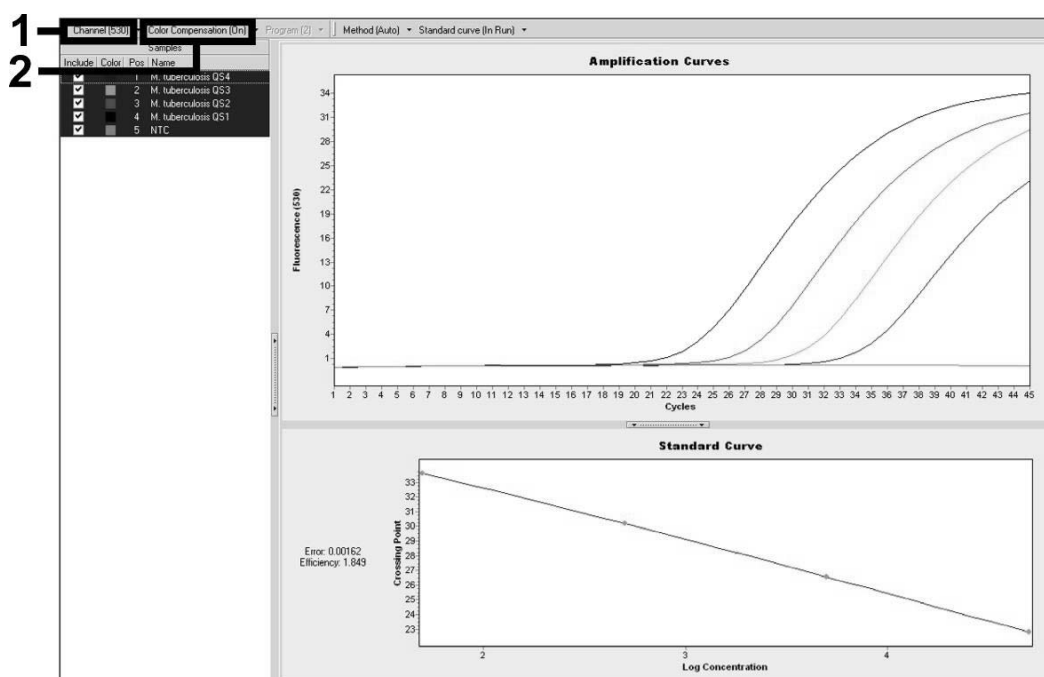

Fig. 9: Activation of the *Color Compensation File* and selection of the fluorescence channel.
For the analysis of PCR data please proceed as follows (see Fig. 9):
- The *LightCycler* Software Version 4.0 contains a file termed *Color Compensation File*, which compensates multicolor analyses interferences between fluorescence channels. Open this file during or after the PCR run by activating the *Color Comp (On/Off)* and then the *Select Color Compensation* button (see Fig. 9). If no *Color Compensation File* is installed, generate the file according to the instructions given in the *LightCycler Operator's Manual*.